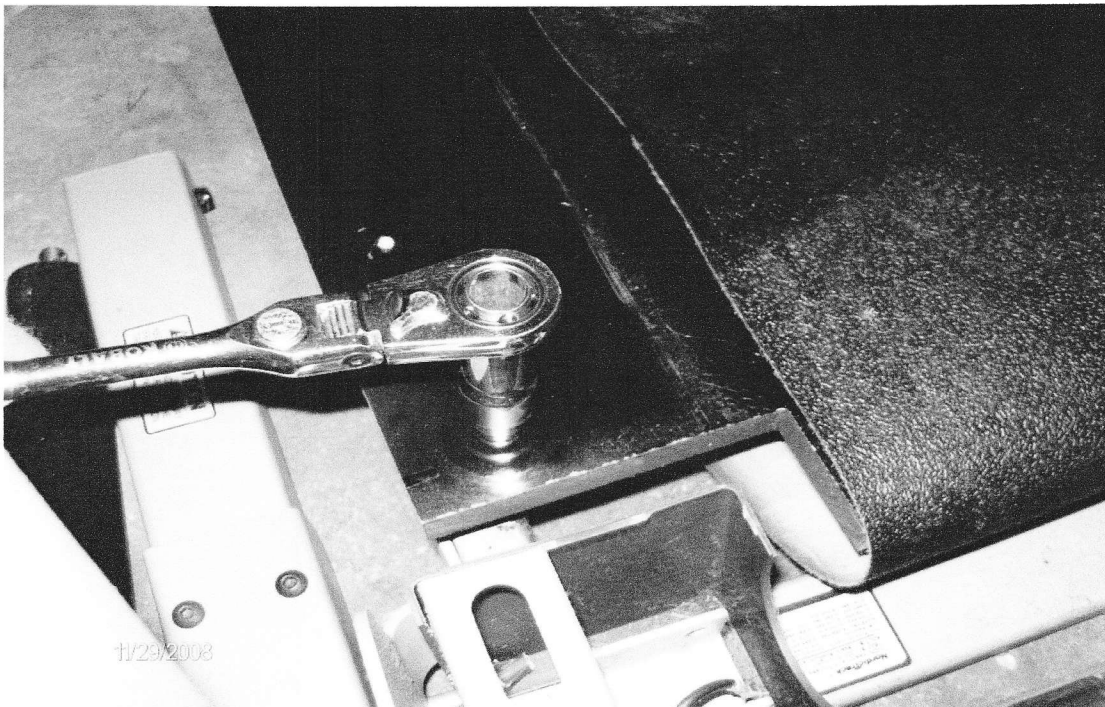

FIG 3.
- 3) Remove the 2 or 3 screws that hold the walking board down (fig 3).